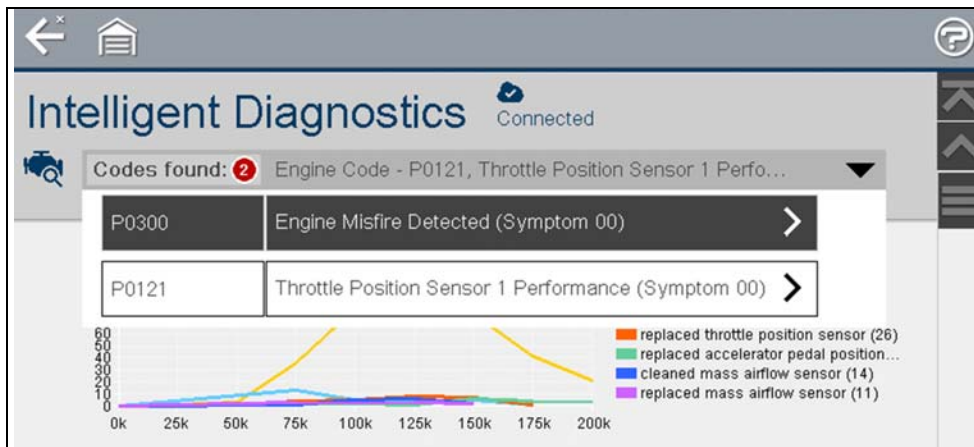

Figure 5-2
3. The Intelligent Diagnostics Main Menu opens (*Figure 5-2*).
4. Select the **Code Results Dropdown** menu (*Figure 5-2*) to open the list of codes (if multiple codes are displayed). This menu allows you to select any of the codes from the code list, without having to exit Intelligent Diagnostics. Selecting a code changes the Intelligent Diagnostics data displayed in the menu to specific data about that code.